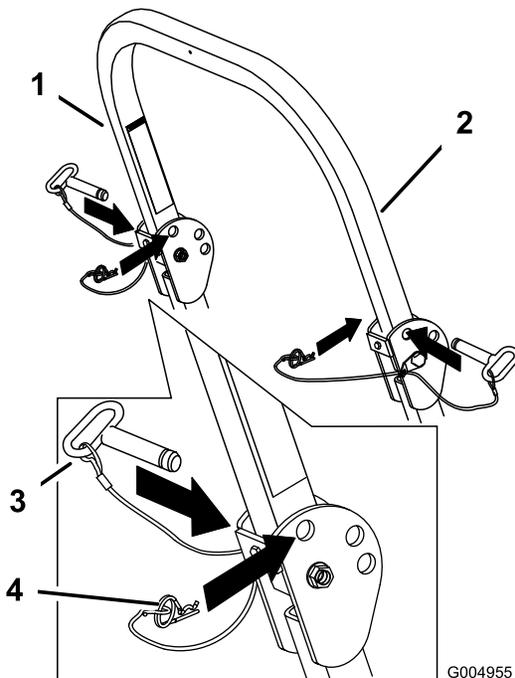

Figure 11
1. Remove the hairpin cotters and remove the 2 pins (Figure 11).
3. Install the 2 pins and secure them with the hairpin cotters (Figure 11).
2. Raise the roll bar to the upright position, install the 2 pins, and secure them with the hairpin cotters (Figure 11).